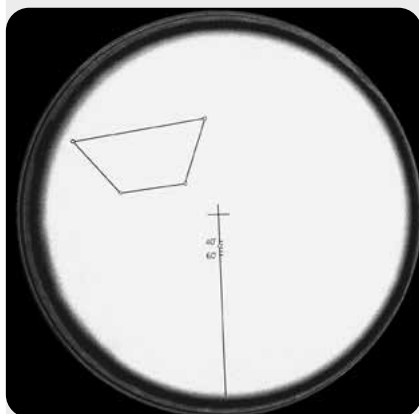

Fig. 5: The view inside the polar alignment viewfinder reticle (the four stars show an association near the southern celestial pole)
1. Point the viewfinder against a bright surface (not in any case at the sun!) and see the scaled line with the center cross (Fig. 5). Turn the viewfinder's eyepiece until the scales are focussed.